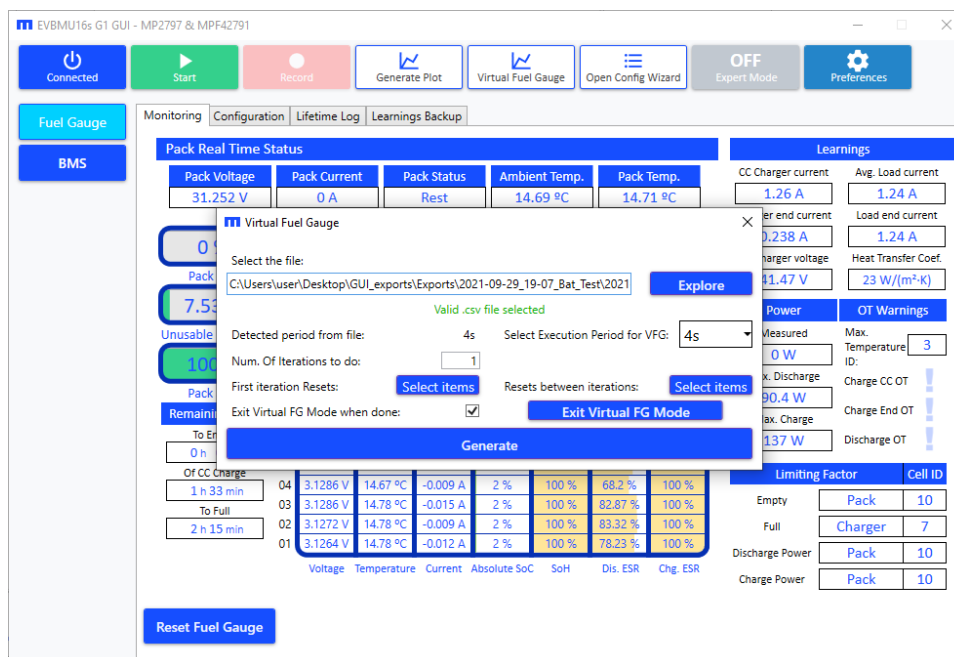

Figure 62: Virtual Fuel Gauge: Valid File Selected
- Select the number of iterations to run on the same data file, and users can select which fuel gauge estimates can be reset during the first iteration (and between iterations). For example, if the start of the file does not match the end, reset everything before the first iteration, and only reset the SoC between iterations (see Figure 62).
5. Select “Exit Virtual FG Mode when done” to disable virtual fuel gauge mode on the evaluation board once all the iterations are done. Then the fuel gauge runs with the readings from its own board, and not the readings from the GUI. Otherwise, this process can be manually exited by clicking “Exit Virtual FG Mode” (see Figure 62 on page 47).